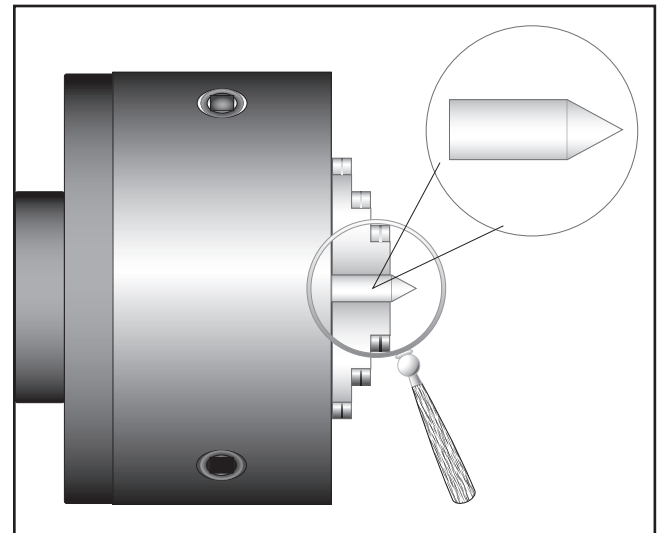

Figure 13. Finished dead center.
2. Make a dead center by turning a shoulder to make a shank. Flip the piece over in the chuck and turn a 60° point (see **Figure 13**). As long as it remains in the chuck, the point of your center will be accurate to the spindle axis.